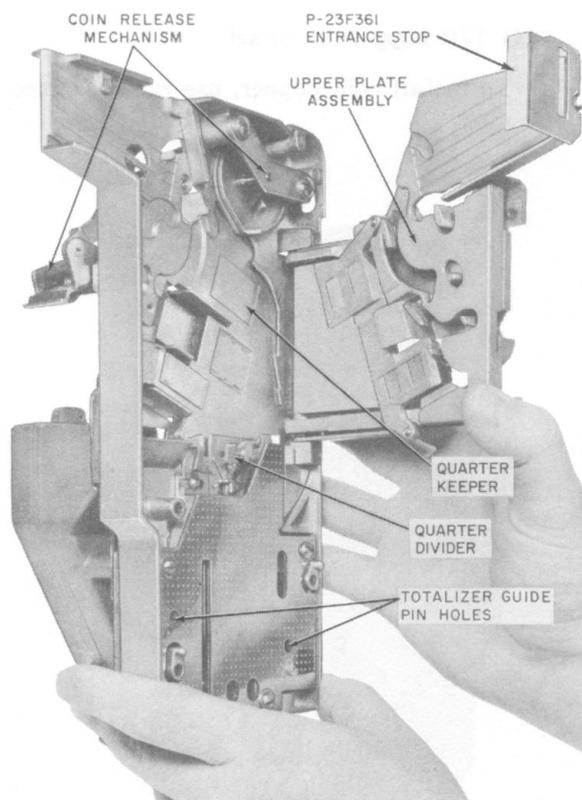

Fig. 22 — Chute
- (1) Operate coin release lever in attempt to clear coins in return chute.
- (2) If trouble does not clear:
- Swing upper plate assembly open (Fig. 22)